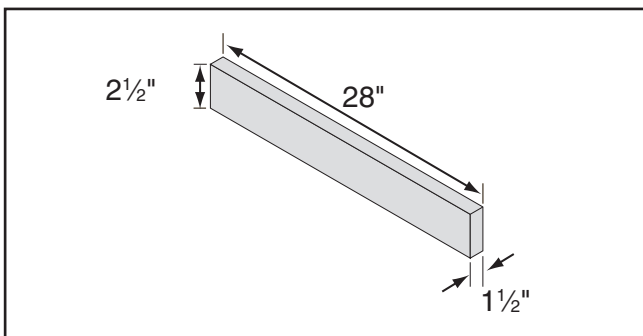

Figure 15. Support board dimensions.
1. Make a support board with a piece of $1\frac{1}{2}$ " stock, approximately 28" long, cut to $2\frac{1}{2}$ " tall and square up on all sides (**Figure 15**).